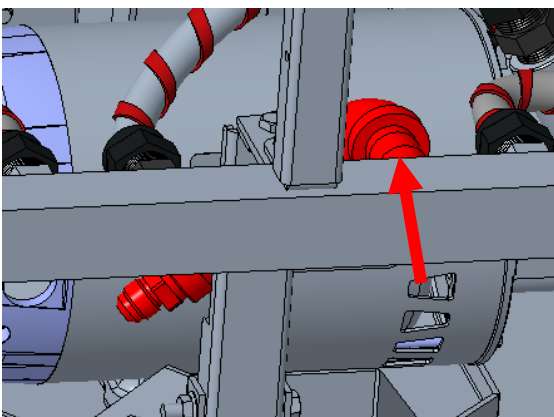

Fig 5
6. Remove check valve assembly from the oil manifold and plug (Fig 5).